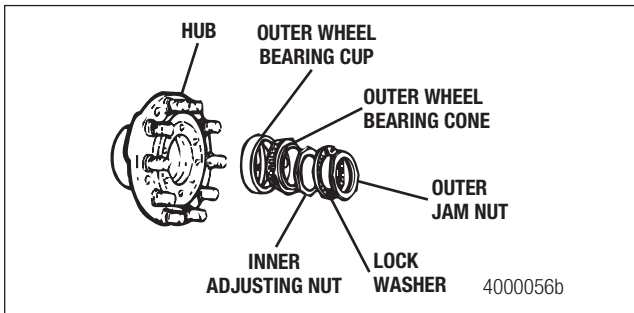

Figure 7.22
2. Install the outer bearing cone onto the spindle and push it into its cup inside the hub. Figure 7.22.